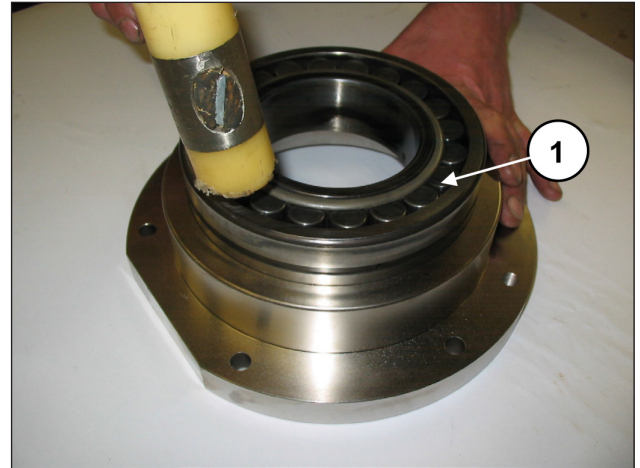
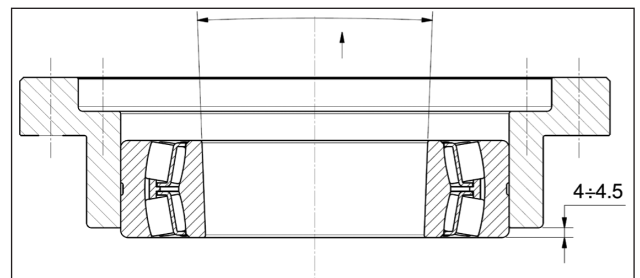

Fig. 70
Fig. 71
Insert the bearing using an extractor hammer (pos. ①, Fig. 70) until 4 to 4.5 mm of the bearing is still protruding, as shown in Fig. 71.
The bearing in Fig. 71 has a tapered internal ring. Check that the taper goes from the outside inwards to allow inserting the bush.